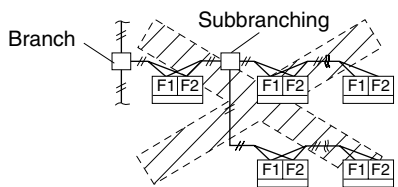

Fig. 15
3. Up to 16 branches are possible for unit-to unit cabling. No branch is allowed after first branch. (Refer to Fig. 15)